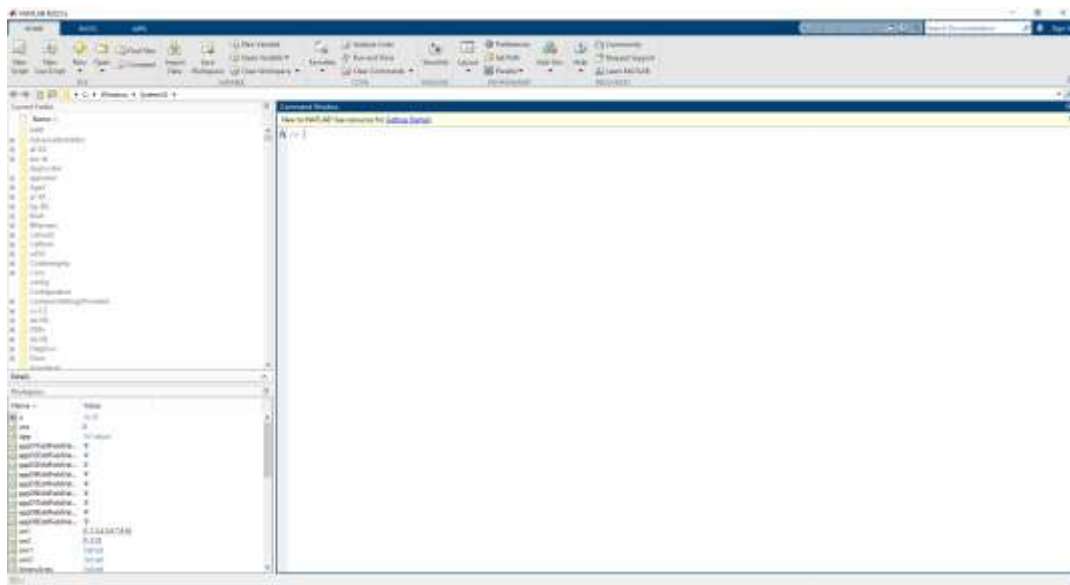

Figure 1: MATLAB Default Screen
1. When MATLAB is open. The Default Screen should look like Figure 1.